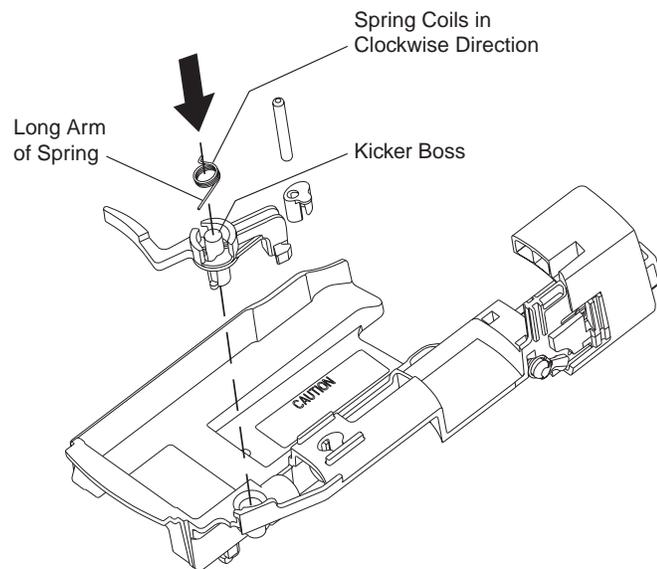

Figure 13 Installing the Kicker
7. Position the pocket lid housing (26) so that the small rectangular opening in the lid is in the same plane as the wedge-shaped snap feature on the pocket housing, then slide the pocket lid housing inward until it snaps in place.
8. Install the kicker (4) in the pocket housing. Refer to Figure 13: